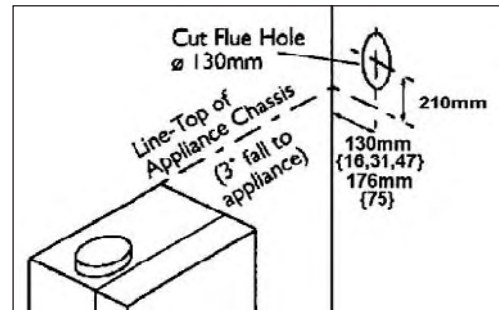

Fig 11.4d
- 1) With the boiler mounted in position, see section 7.0, draw a horizontal line along the wall 210 mm above the top of the boiler. This line should rise at approximately 3° from the horizontal toward the terminal position to allow any condensate to drain through the boiler. See fig 11.4d.
- 2) On the adjacent sidewall, draw a vertical line 130 mm (15, 25 & 45 models), or 176 mm (75 model) from the wall that the boiler is mounted on. Continue the horizontal line previously marked on the sidewall, See fig 11.4d
- 3) At the intersection of the horizontal and vertical lines, cut a 130 mm \varnothing hole with a core drill. See fig 11.4d.